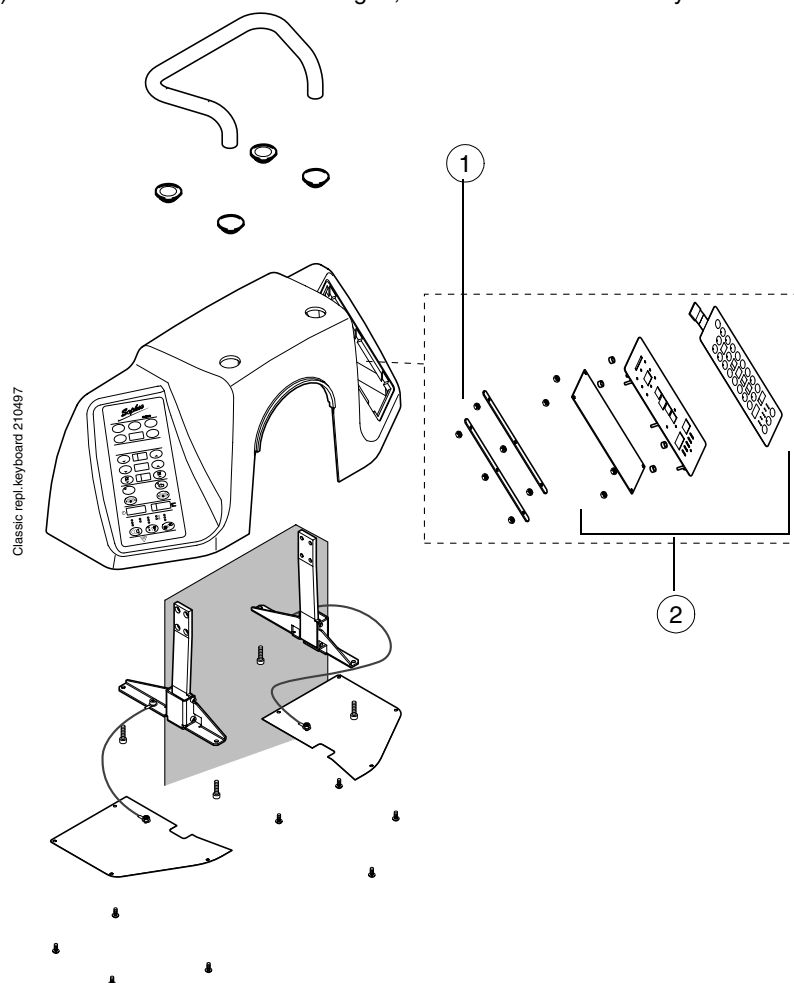

Figure H.25
- c) Unscrew the six nuts of the Display PCB assembly (Fig. H.25 , 1) and remove the assembly from the hood (Fig. H.25, 2).